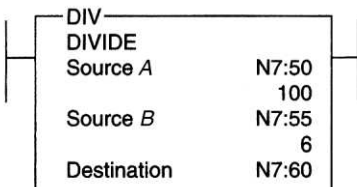

Figure 11-13 DIV instruction for question 18.
18. With reference to the DIV instruction of Figure 11-13, the value of the number stored at Destination is 18._____